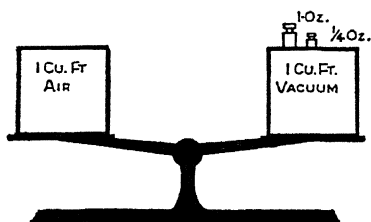

Fig. 1. One cubic foot of air is balanced by  $1\frac{1}{4}$  ounces.
Suppose two vessels, constructed air-tight, each of which contain one cubic foot, are placed on the scales as indicated in Fig. 1. The vessels themselves are exactly the same weight. Now we will
**Relative Weight of Gasoline and Air for Correct Mixture.** It will be seen that if we were to place one cubic foot of air on one side of the balance, as shown in Fig. 1, that it would be balanced with